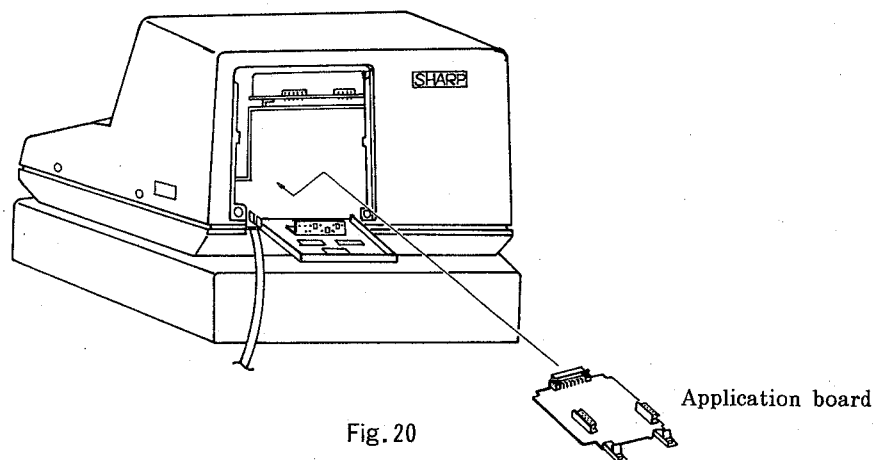
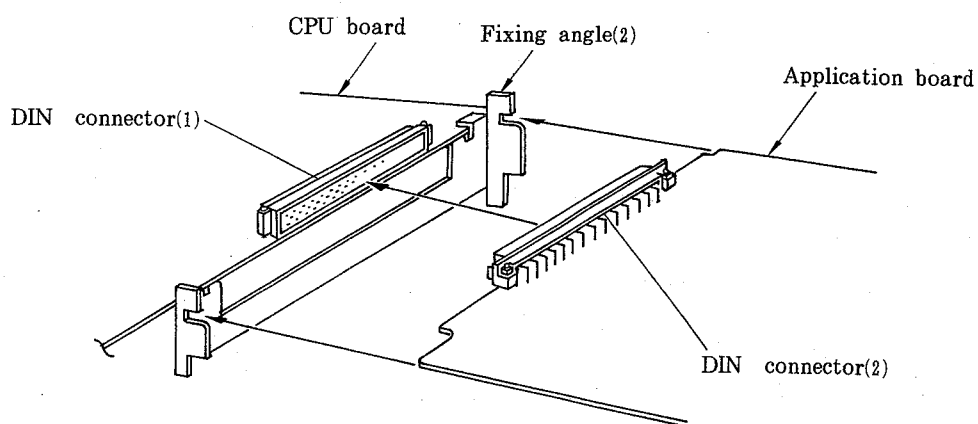

Fig.20
Fig.21
- (14) Restore the application board as follows:
- a) Insert the application board into the body (Fig.20) and fit it to the fixing angle (2) (2 positions). (See Fig.21.)